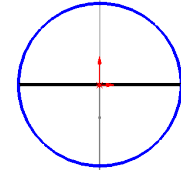

Fig. 9
Step 5. Click **Line**  (L) on the Sketch toolbar.
Step 6. Sketch **horizontal line across circle**, **Fig. 9**.